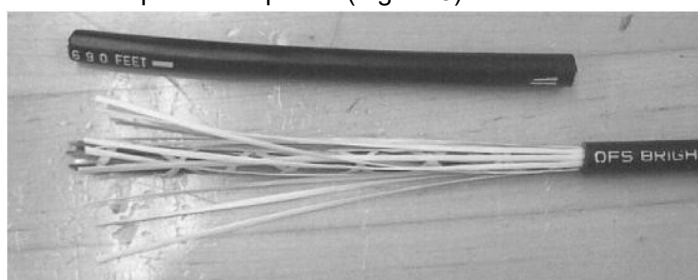

Figure 5 - Remove the 130 mm section to expose the ripcord
4.6 Remove the 130mm section to expose the rip cord (Figure 5).